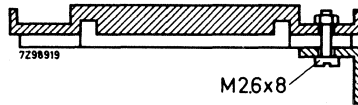

Fig.9. Connector rail attached to profile strip with board guides.
3. Attach a connector rail to each rear profile strip by means of 6 equidistant screws and nuts M2.6x8 (see Fig.9). Do not tighten the screws earlier then step 10.